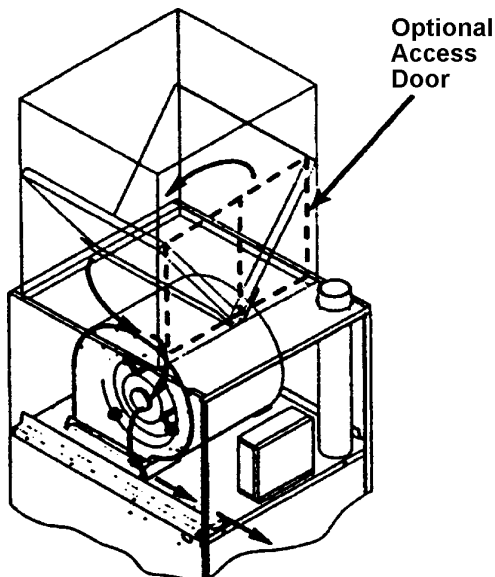

Figure 44
5. To reinstall the filters, first **MAKE CERTAIN THE AIRFLOW DIRECTION ARROW POINTS TOWARDS THE FURNACE**. Then insert the filters from the left side of the blower. Starting with the right filter, push the filter into the plenum so that the bottom of the filter rests in the filter rack and the upper edge rests against the side of the plenum. Repeat with the left filter (Figure 44).